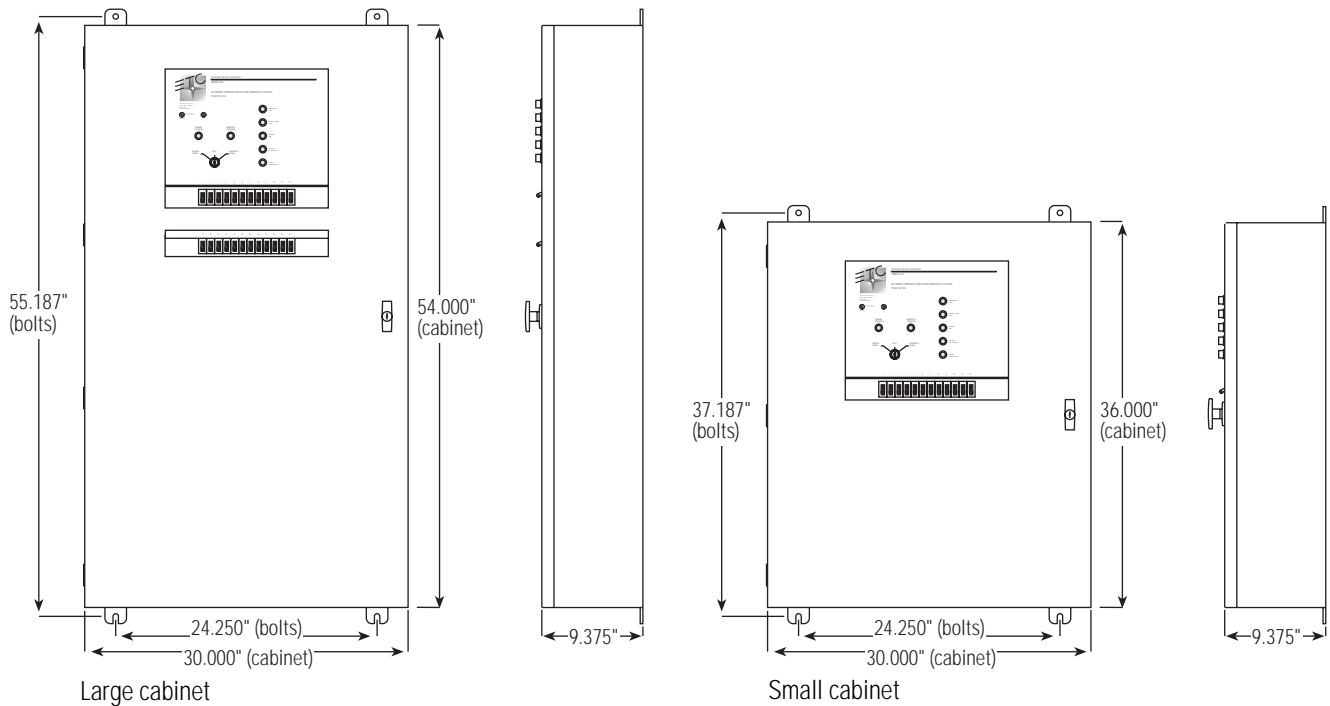

Figure 5: ELTS cabinet mounting dimensions
2. Use the mounting dimensions from *Figure 5: ELTS cabinet mounting dimensions* on page 9 to drill the holes for the upper two 3/8" bolts.